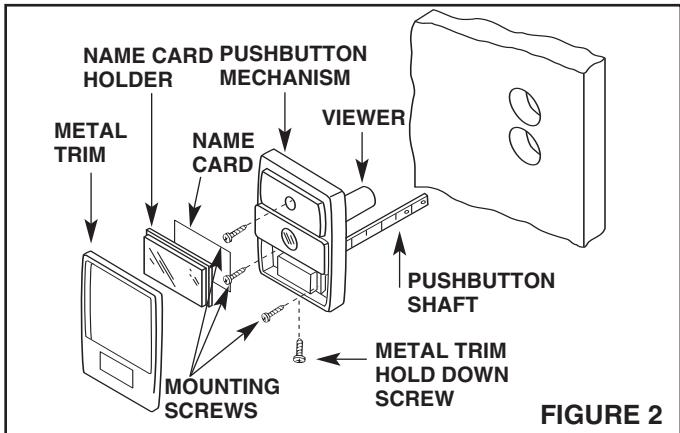

FIGURE 2
- Refer to Figure 2. Print or type name and address on card (supplied). Place the card in holder with printing toward the front and secure in place with metal trim.